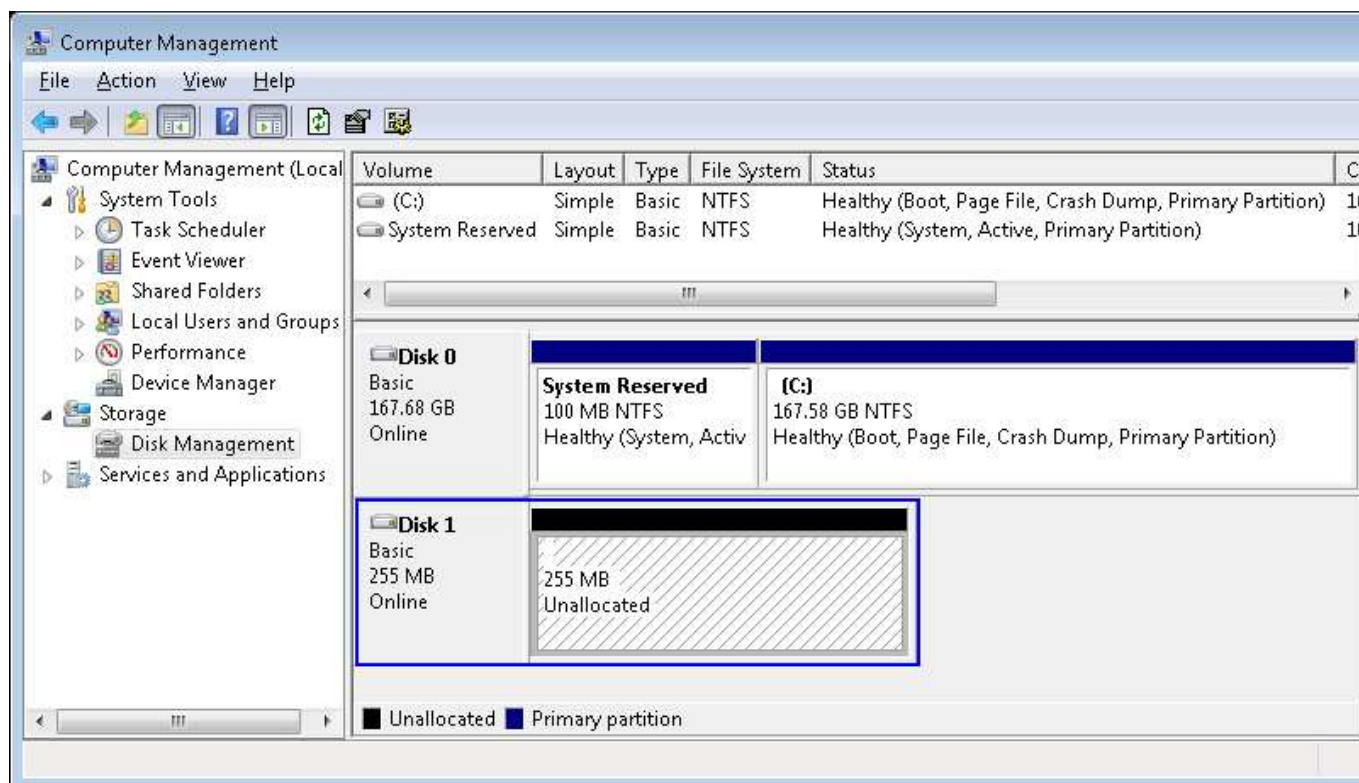

Figure 3-3 Initialize Disk Completed
- After that, new 255 MB disk which is unallocated will be displayed as shown in Figure 3-3.